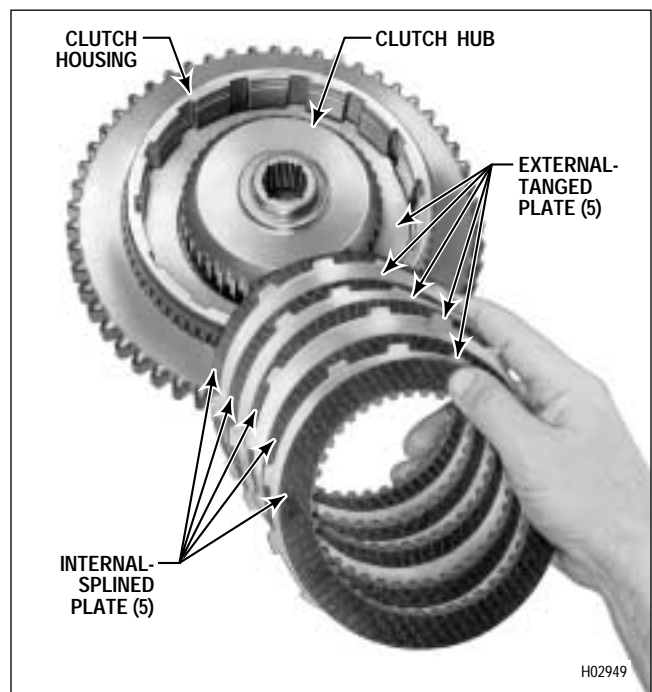

Figure 6-42. Installing Forward Clutch Plates (Models Without Wave Plate)
(6) Install the forward clutch hub into the clutch housing (Figure 6-42).
(8) Beginning with an external-tanged clutch plate, install the clutch pack established in Paragraph 6-9c(6) or 6-17b(3) (Figure 6-42).